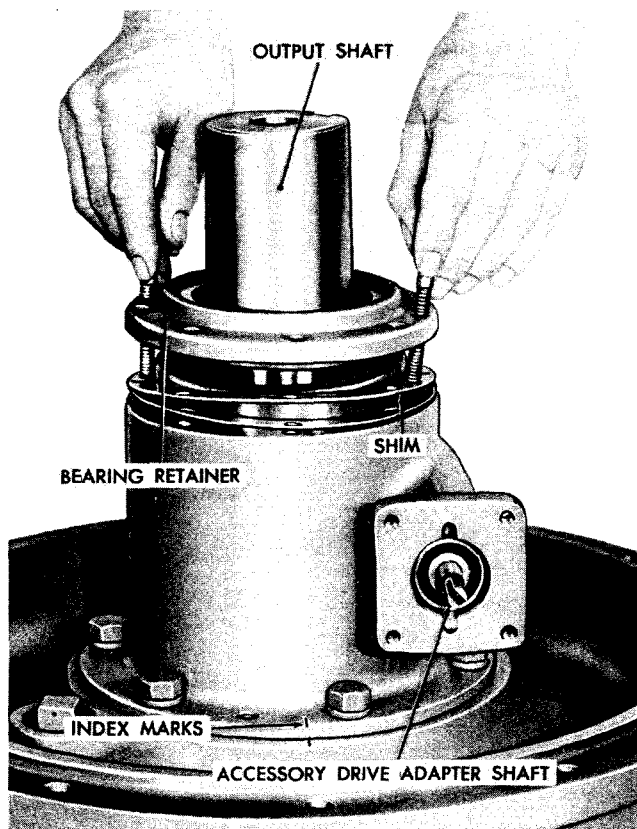

Fig VI-24. Removing bearing retainer and shims
(2) Remove the eight bolts and lock washers from the bearing retainer (fig. VI-24).
(3) Using jackscrews, remove the retainer and the shims from the bearing housing (fig. VI-24).
Note: Be sure to align the index marks (fig. VI-24) made on the bearing housing and the converter housing during disassembly.